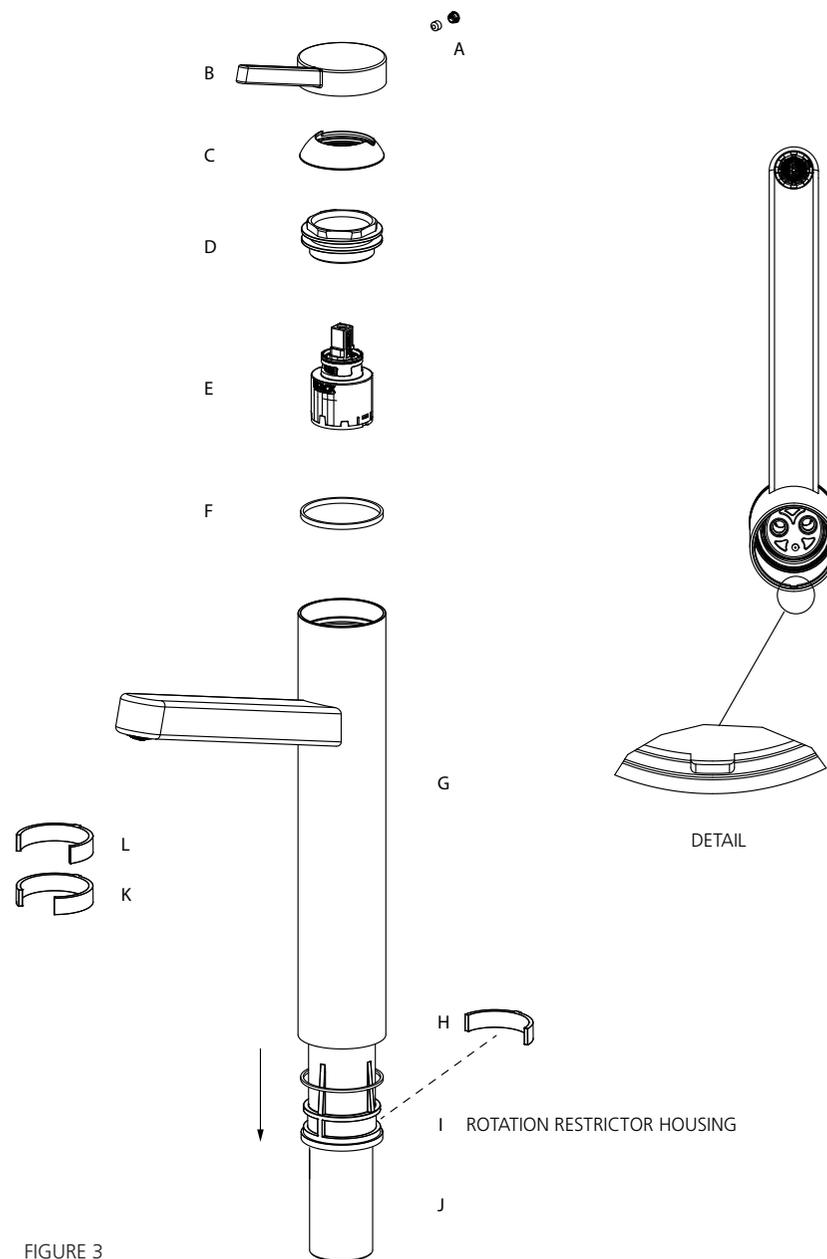

FIGURE 3
1. Remove the grub screw hole cover from the back of the Mixer Handle (B) and unscrew the handle Grub Screw (A) using a 2.5 mm Allen Key. **Refer Figure 3.**
2. Remove the Mixer Handle (B) by pulling it upwards and off the cartridge stem.
3. Gently pry the Locking Nut Dome Cover (C) away from the top of the Mixer Body (G) being careful not to damage the surface finish of the Locking Nut Dome Cover or Mixer Body.
4. Unscrew the Cartridge Locking Nut (D) with a 37 mm hex spanner.
5. Remove the Cartridge (E) and the Anti-Friction Ring (F).
6. Holding the Threaded Support (J), pull on the Mixer Body (G) until the Rotation Restrictor Housing (I) is visible, then remove the current restrictor (H) and replace it with the desired alternative (K) or (L).
7. With the replacement Rotation Restrictor installed, push down on the Mixer Body (G), being careful to align the key in the Rotation Restrictor Housing (I) with the notch in the base of the Mixer Body (G). **Refer Figure 3 - DETAIL.** You may find the correct location by slowly rotating the Mixer Body (G) together with light downward pressure until the two parts move in to place and engage.
8. Reinstall the Anti-Friction Ring (F) and the Cartridge (E).
9. Tighten Cartridge (E) in place using the Cartridge Locking Nut (D). Tighten to 12 Nm. **Do NOT overtighten.**
10. Reposition the Locking Nut Dome Cover (C) and the Mixer Handle (B) - making sure the 'cut-out' in the Locking Nut Dome Cover (C) corresponds to the back of the Mixer Handle (B) so that the handle can open and close freely while also rotating through 90°.
11. Lock the Mixer Handle (B) in place using the Grub Screw (A) and replace the grub screw hole cover in the handle.